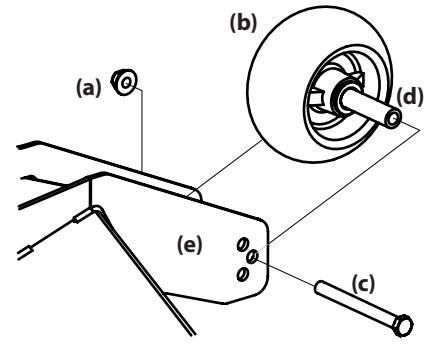

Figure 45
2. Remove the lock nut (a) securing one of the front gauge wheels (b) to the deck. Remove the front gauge wheel (b), hex screw (c) and spacer (d). See Figure 45.
3. Insert the hex screw (c) into one of the three index holes in the front gauge wheel bracket (e) that will give the front gauge wheel (b) a 1/4-1/2" clearance with the ground. See Figure 45.
4. Note the index hole of the just adjusted front gauge wheel (b), and adjust the other front gauge wheel (b) into the respective index hole of the other front gauge wheel bracket (e). See Figure 45.